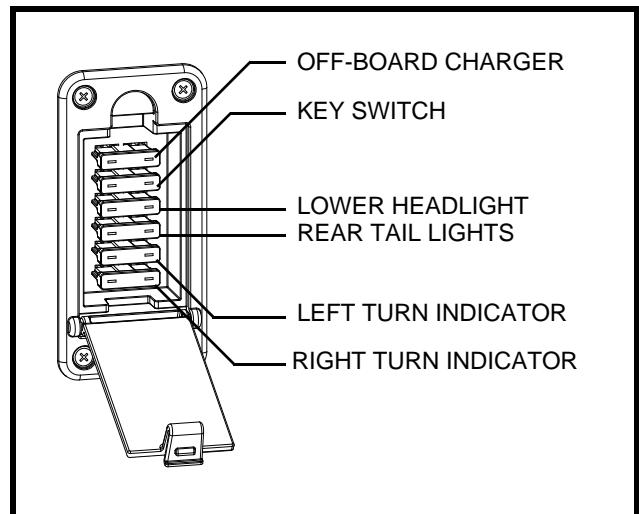

**Figure 6. Off-board Charger Port (Tiller Mounted)**
The off-board charger power lead plugs into this port during battery charging. The off-board charger port will be located on the tiller. **See figure 6.**
4. Plug the 3-pin charger power lead into the off-board charger port. **See figures 6 and 11.**